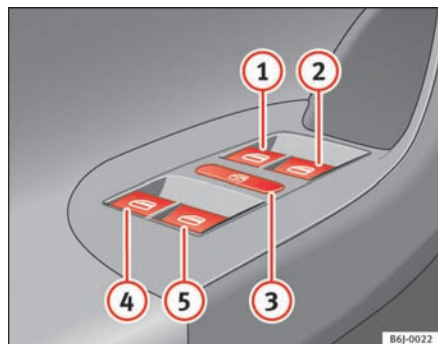

Fig. 48 Detail of driver door: controls for the front and rear windows
The buttons ⇒ page 86, fig. 48 ①, ②, ④ and ⑤ have two levels for opening the window and two for closing it. This makes it easier to open and close windows to the desired position.